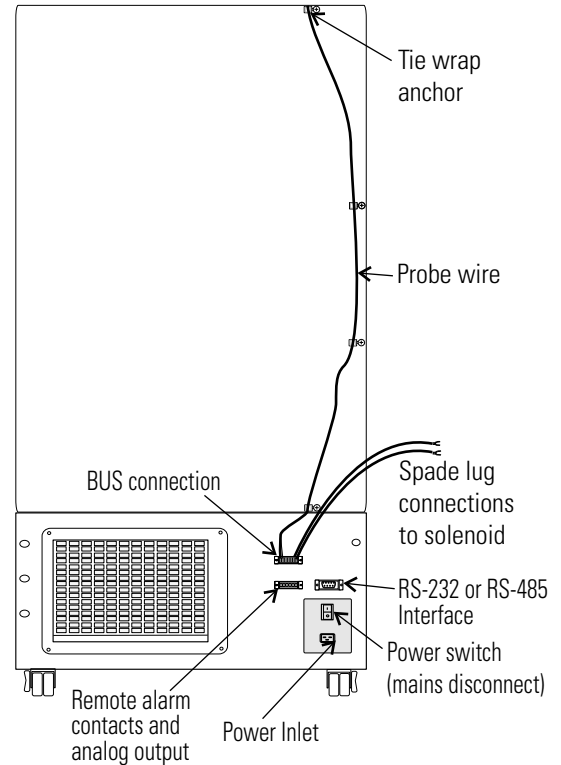

Figure 6-5. Routing
1. Remove the four screws on the freezer back panel and use them to mount the tie wrap anchors as shown in Figure 6-5. Secure the probe wire with tie wraps.